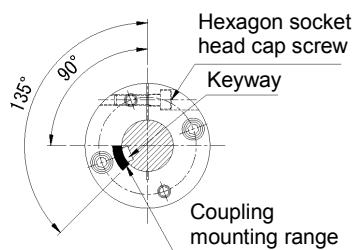

Fig. 5-16
- For the motor shaft provided with a keyway, remove the key and align the center phase of the keyway of the motor shaft with the position indicated in Fig. 5-16 (with reference to the bolt) within the mounting range of the coupling. Otherwise, proper tightening force cannot be obtained.
- Confirm that the tip of the motor shaft is in contact with the partition plate, and then tighten the hexagon socket head cap screws with the specified tightening torque (refer to Fig. 5-16).